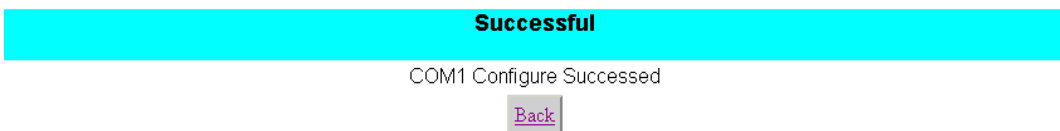

Fig. 30. Configuration successfully updated
- Note : If the update is successful, the following screen shall appear (Fig. 30)